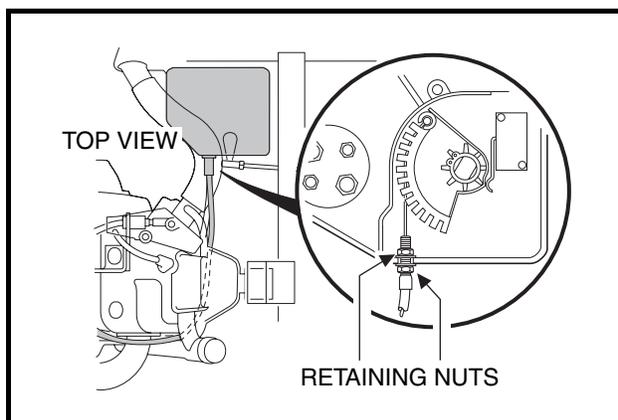

**Figure 16-46 Connect Shifter Cable**
- 22.4. Install the nut (3), washer (4), and bolt (7) on the Forward/Reverse shifter lever and tighten to 23 in lb (4.1 N-m).
23. Position the shifter cable in the shifter cable mounting bracket on the transaxle and tighten the mounting nuts to 22 ft-lb (29.8 N-m). Connect shifter cable rod end to the shifter arm **(Figure 16-46, Page 16-19)**.